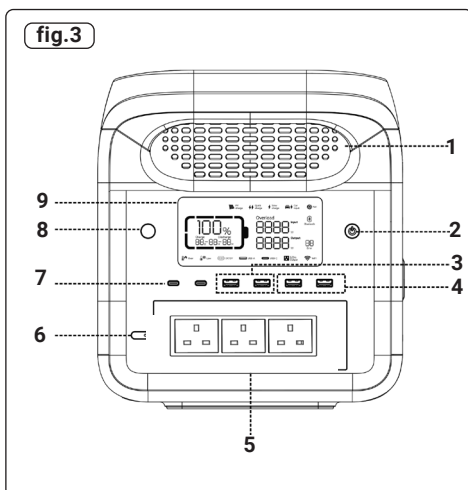

Figure 3 Key
- **AC OUTPUT** (fig.3, fig.4)